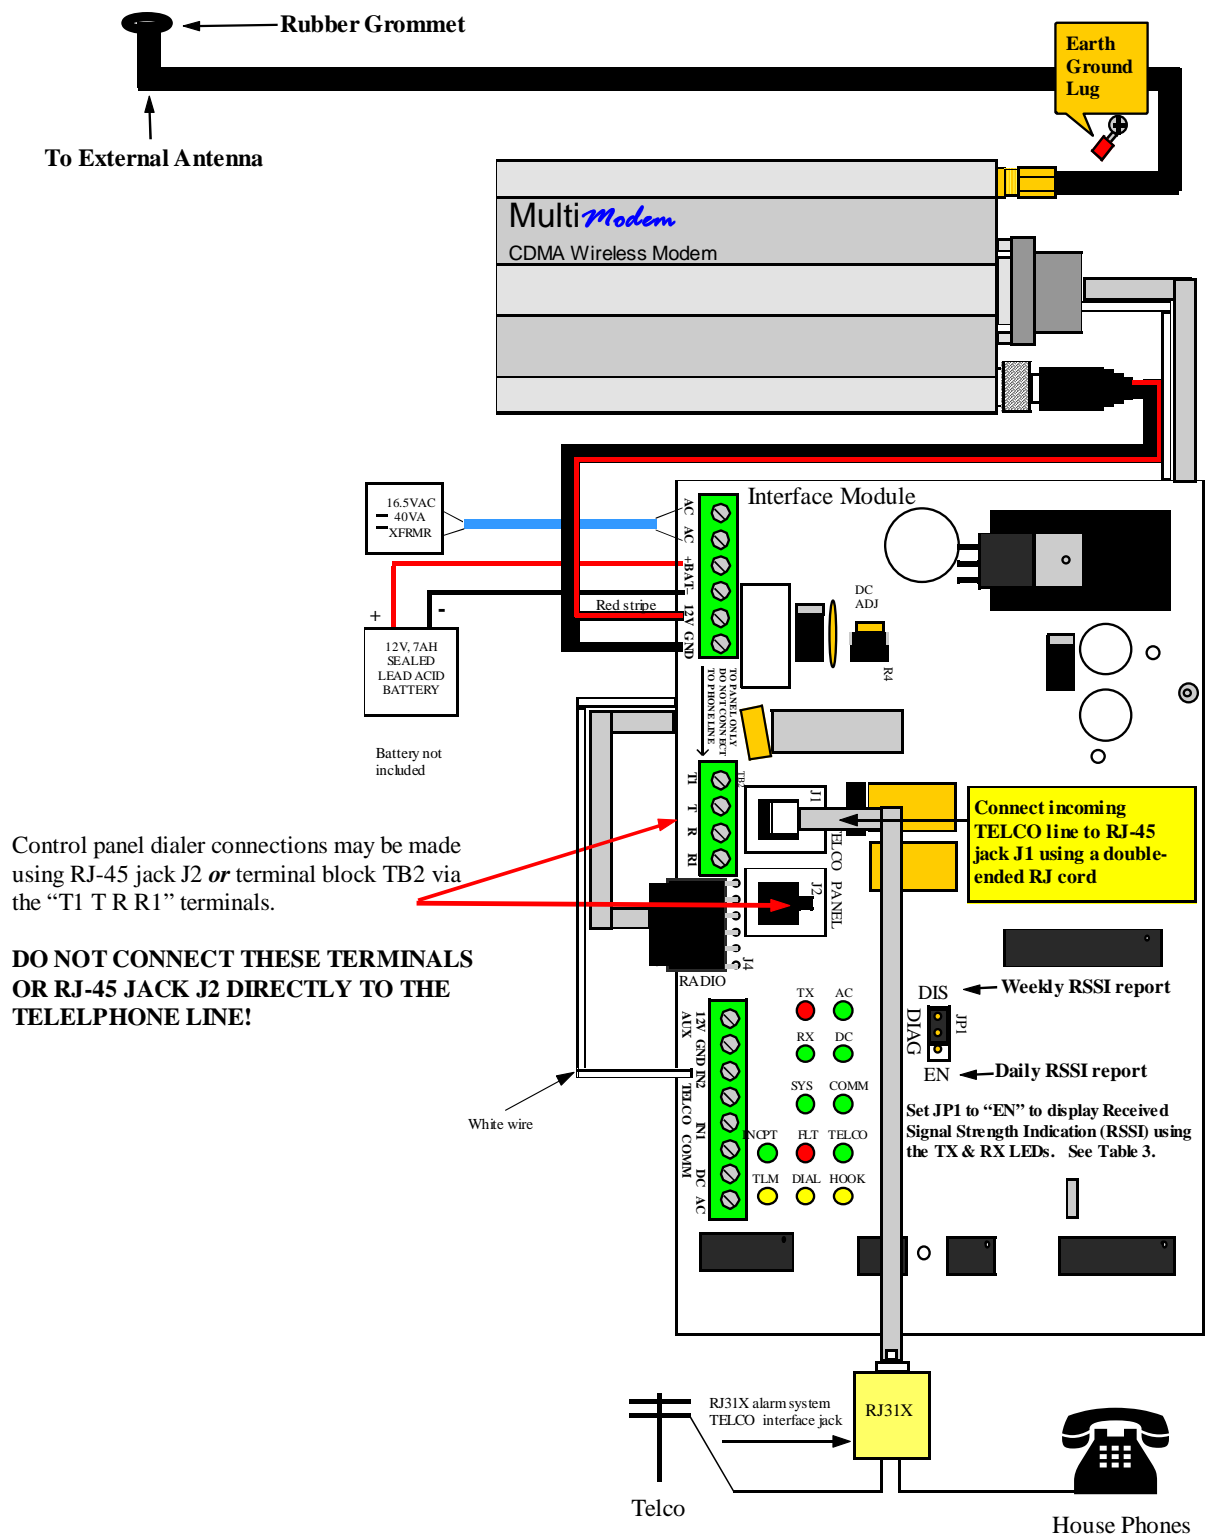

Figure 1: Uplink 2540 Wiring
4. Plug one end of a double-ended RJ cord into the premises RJ31X jack (see Figure 1). Plug the other end into J1 of the Interface Module.
6. An Earth Ground lug is located on the upper right corner of the enclosure (see Figure 1). For TELCO transient protection, connect this lug to a suitable Earth Ground using 18 AWG wire.
7. Using good quality zip cord, connect the included 16.5VAC, 40VA transformer to the AC terminals of the Interface Module (see Figure 1). Do not plug the transformer into an AC socket at this time.
8. Connect the black battery wire to the negative terminal of a 7Ah battery (see Figure 1). Do not connect the red wire at this time.